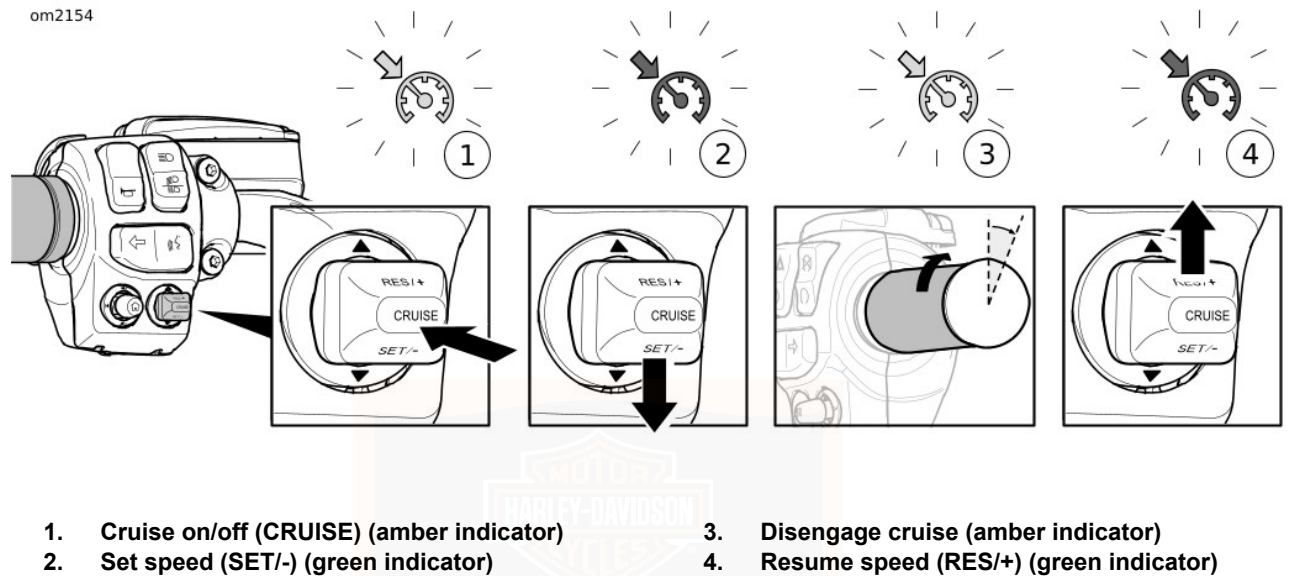

Figure 29. Cruise Control (typical)
See Figure 29. Press the CRUISE switch to turn on cruise (1). When on, the cruise icon in the speedometer face glows amber.
See Figure 29. When the motorcycle reaches your intended speed, press the SET/- switch to set the cruise speed (2). The amber cruise icon changes to green.
See Figure 29. To drop out of cruise speed, roll the throttle closed through the roll-off switch (3).
See Figure 29. If cruise has been disengaged yet the cruise indicator is amber, pressing the RES/+ switch resumes cruise (4). The icon glows green. The motorcycle automatically resumes cruise at the set speed.